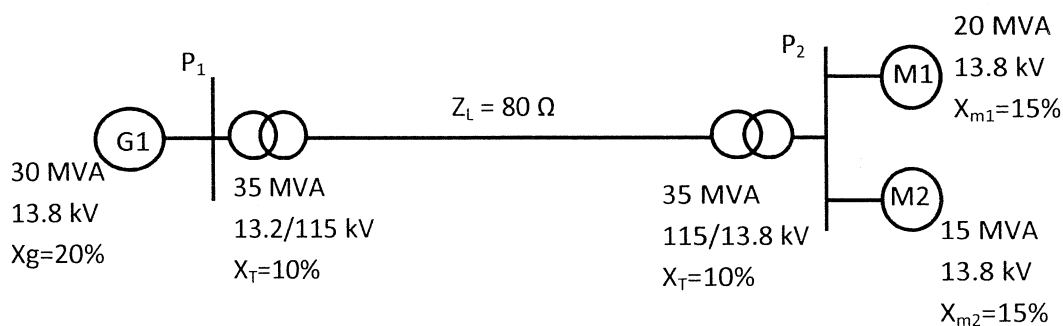

Figure Q5
- II. A generator supplying power to two motors through an overhead transmission line is shown in Figure Q5.